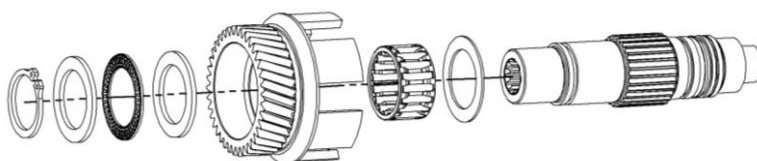

Figure 6 – Output Shaft component's Removal
11. Shift to the front of the output shaft (9) and remove the snap ring (15) using snap ring pliers. Proceed to remove the washers (13), bearing (14), output gear (12), needle bearing (11) and washer (10). *See figure 6.*